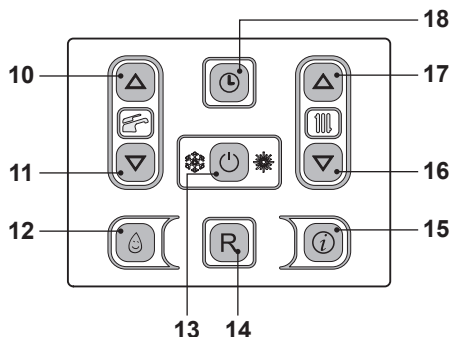
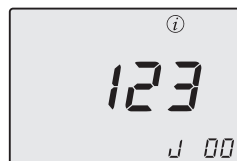

Fig. 3.5
Fig. 3.6
In order to access the INFO mode, press key 15 (Fig. 3.5) the index **J00** and the value of the parameter appear on the display (Fig. 3.6).
To scroll the values press 16 (reduce) and 17 (increase) keys. In order to exit the INFO mode, hold keys 13 and 17 (Fig. 3.5) pressed at the same time.
To reset normal boiler functioning, just press the 14 (Fig. 3.5) key.